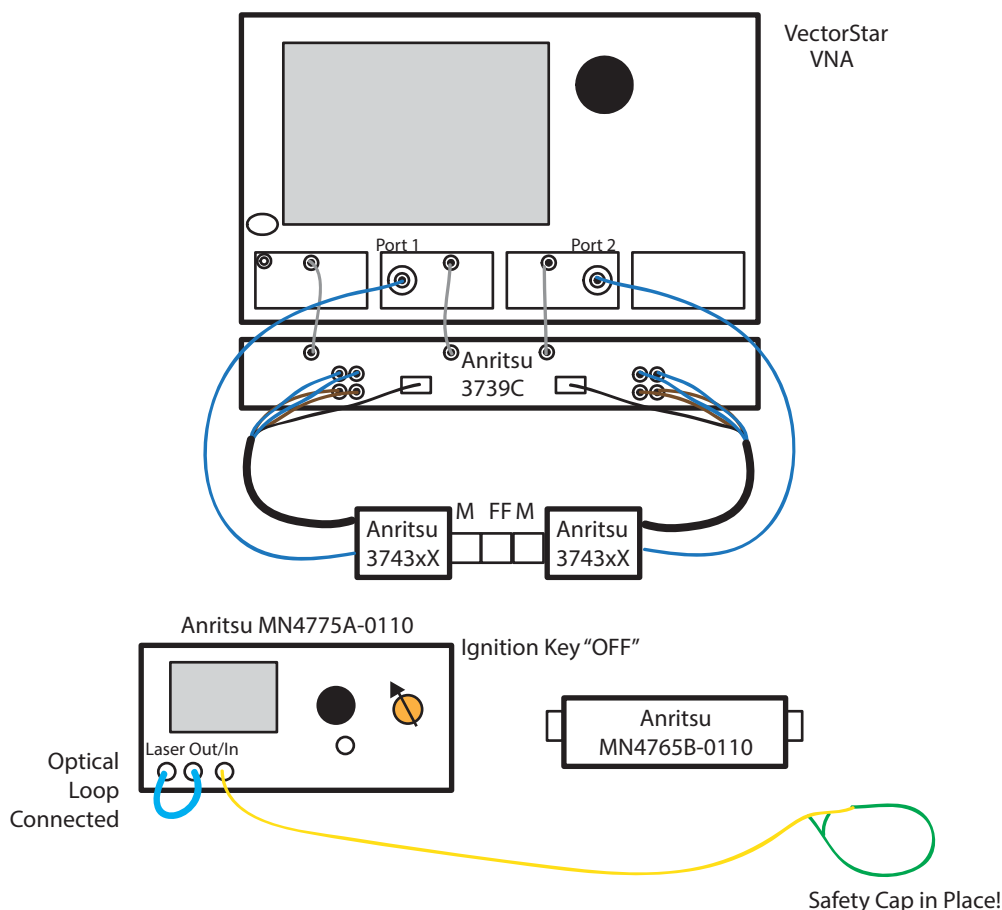

Figure 3-1. Initial ME7848A/E-0210 1550 nm Initial System Setup
1. Configure components (VNA, O/E, E/O, RF and Optical cables) as shown in Figure 3-1.
- b. Keep **Ignition-Key** in **OFF** Position as shown in Figure 3-1.
6. Make initial VNA RF Connections shown in Figure 3-1.
7. Make Optical connection to MN4775A-0110 as shown in Figure 3-1.